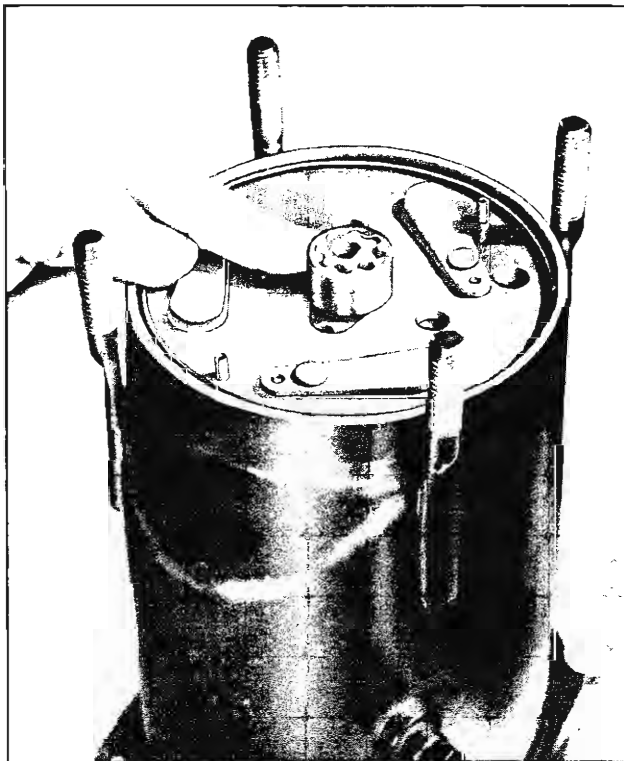

Fig. 37—Proper Oil Pump Gear Positioning
- c. Facing the centerline of the sump and viewing from the sump side (bottom) of the compressor, move the OUTER gear toward the right (side having the oil test fitting) until it is at approximately 90° (3 o'clock position) from the centerline of the oil sump (fig. 37).